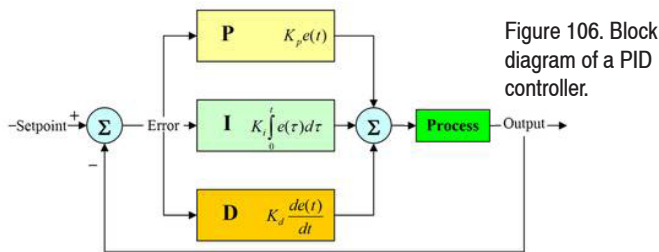

Figure 106. Block diagram of a PID controller.
PID is an acronym that stands for *Proportional-Integral-Derivative*, and is a generic closed-loop control mechanism that is commonly used in many industrial control systems. It is by far the most commonly used feedback controller in use today. A controller which implements PID mode continuously calculates the difference (or *error signal*) between a measured *process variable (PV)* and a desired *setpoint (SP)*. The PID controller attempts to minimize this error by adjusting the process control inputs, also referred to as the *manipulated variable (MV)*. A block diagram of a PID controller is shown in Figure 106.